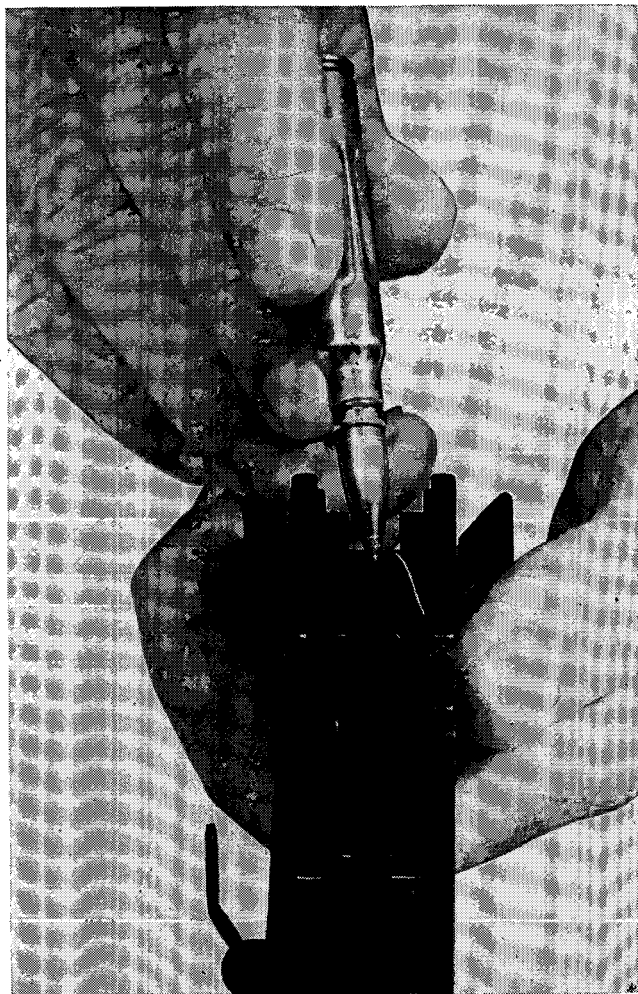

Figure 38.1. (Added) Alternate method of removing the sear spring.
c. To remove the * * * the sear spring. **An alternate method of removing the sear spring can be used as follows. Place the trigger group on a flat surface with the magazine guides toward your body. Using a dummy cartridge, insert the point into the notch on the square end of the sear spring, and push forward unseating the sear spring (fig. 38.1). Remove the sear spring.**